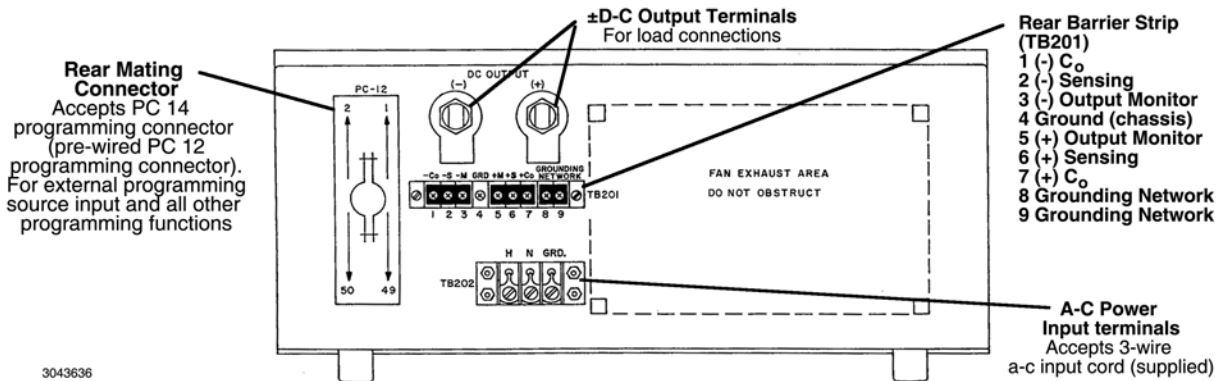

FIGURE 3. REAR PANEL TERMINATIONS
3.4. CONNECTIONS. Connections are made using the rear panel terminations (see Figure 3).
3.4.1. LOAD CONNECTION, GENERAL. Connect the load between -OUT and +OUT output power terminals at the rear panel (see Figure 3. *Sense connections are required, either local or remote, must be used; otherwise the unit will not operate.*
3.4.3. LOAD CONNECTION, REMOTE SENSING. To avoid excessive output effects at remote loads, remote error sensing must be used (Kelvin connection). A pair of wires (twisted to reduce EMI) connected from the sensing terminals directly to the load will compensate for load wire voltage drops up to 0.5 volt per wire (refer to Figure 3. 3-4). Observe polarities: the negative sensing wire must go to the negative load wire, and the positive sensing wire goes to the positive load wire.